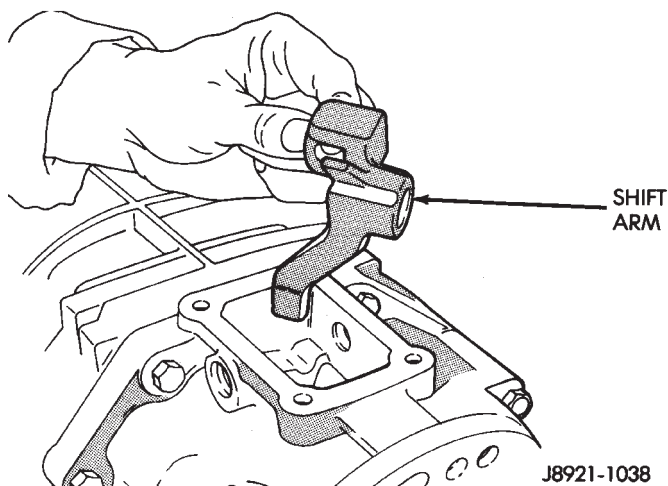

Fig. 8 Shift Arm Removal/Installation
- (9) Remove shift arm (Fig. 8).